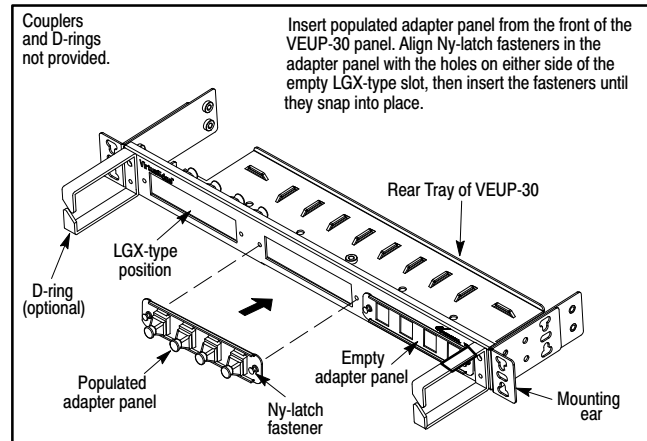

Figure 5. Inserting Populated Adapter Panels in the VEUP-30
3. Align the two, plastic, Ny-latch fasteners on each side of the coupler-populated adapter panel with the holes provided for them at both sides of the desired LGX-type position on the panel. Insert the fasteners into the holes, and press them until they click, snap, or lock in place. Verify the adapter panel is securely attached to the panel (see Figure 5).